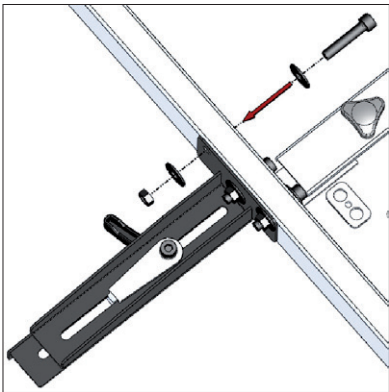

Fig 4
- Mount and fasten the lead plate on worktable. (Fig 4)